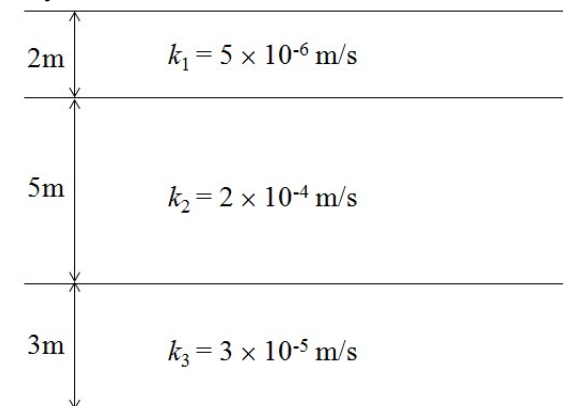

Figure 2
5. (a) A stratified soil deposit (Figure 2) has an average hydraulic gradient of 0.3 in both horizontal and vertical directions. Determine (i) the ratio of equivalent permeability in horizontal and vertical directions, (ii) discharge quantity in each layer and (iii) discharge velocity in each layer for horizontal flow.